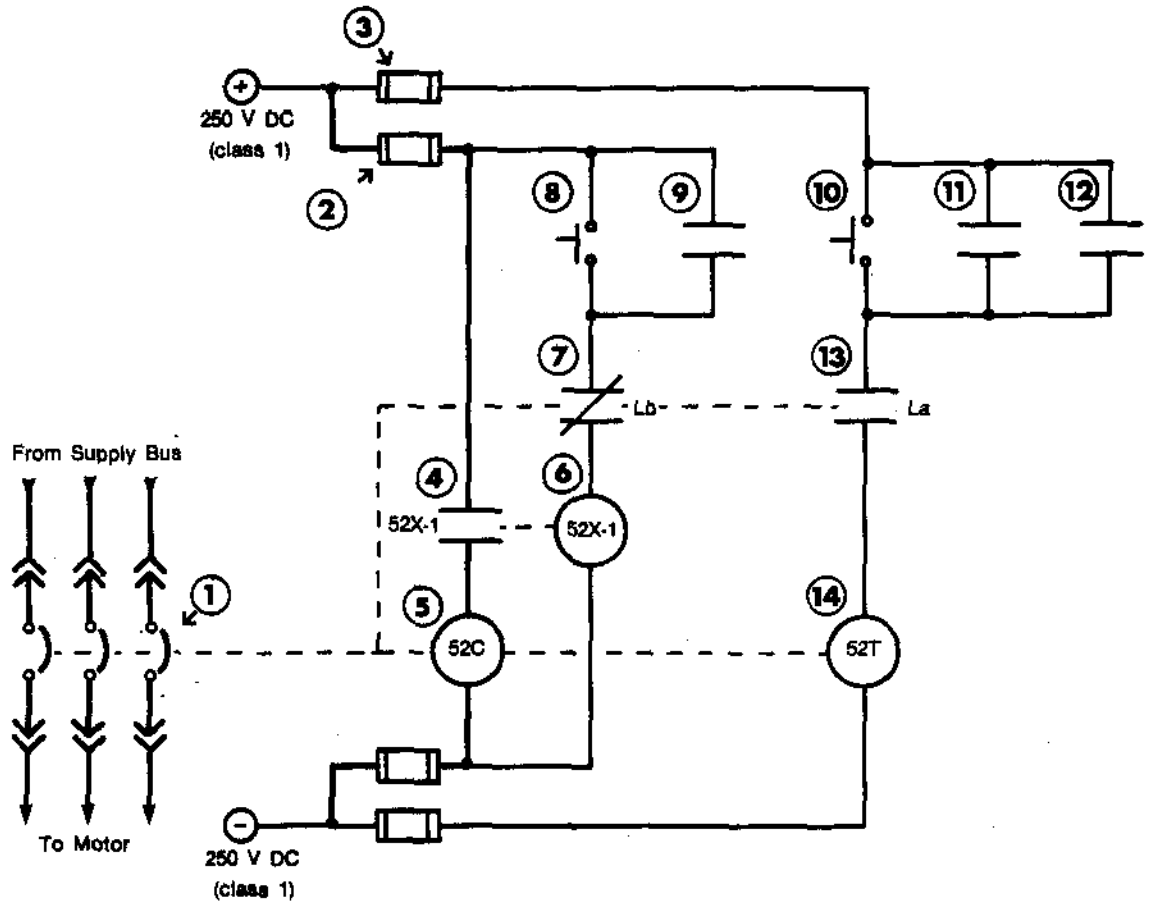

Figure 4: Breaker Control Circuit.
5. For the circuit shown in Figure 4 briefly explain the function and purpose of each of the 14 components. State the purpose of each of the following circuit breaker control features.